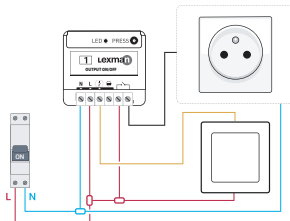

Figure 3
3. Wire the ON/OFF receiver according to the diagram (Figure 3).